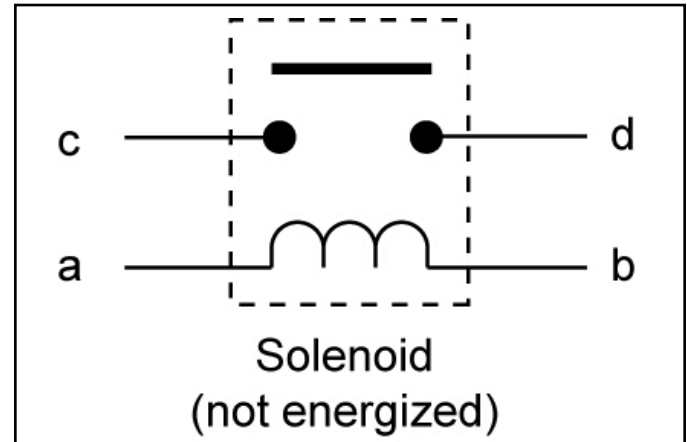

Fig. 166
3. Apply +12 VDC to terminal "a" and ground terminal "b". Terminals "c" and "d" should now be closed (continuity) (Fig. 166).